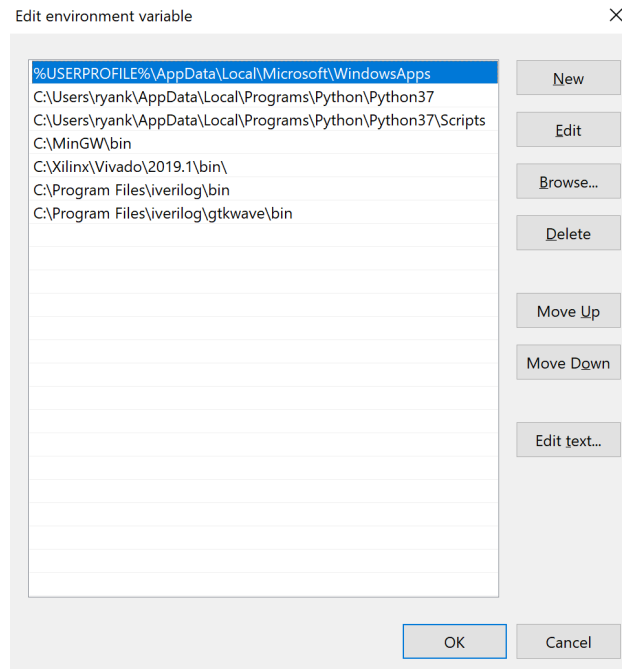

Figure 6: Adding programs to your PATH.
- Click the next empty row and paste the path of the appropriate program (Fig. 6). Hit okay and you're done!